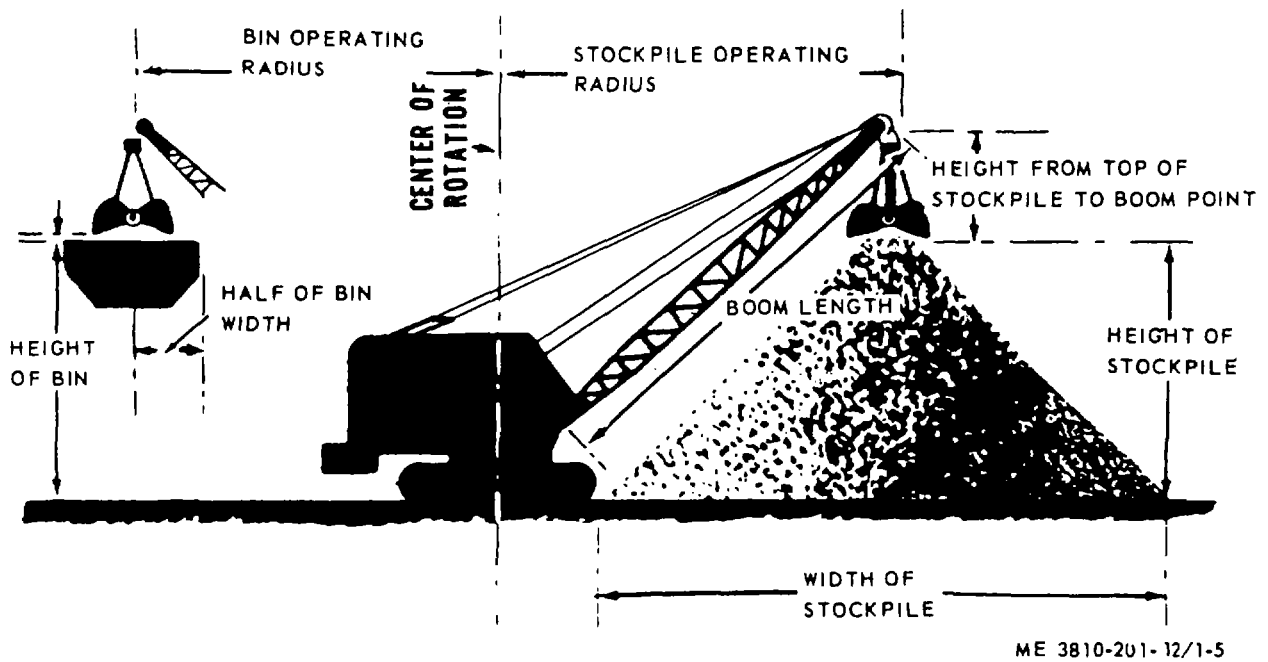

Figure 1-5. Dragline working range".
(22) Dragline working ranges. Dragline working ranges are illustrated in figure 1-5 and dimensions are listed below.